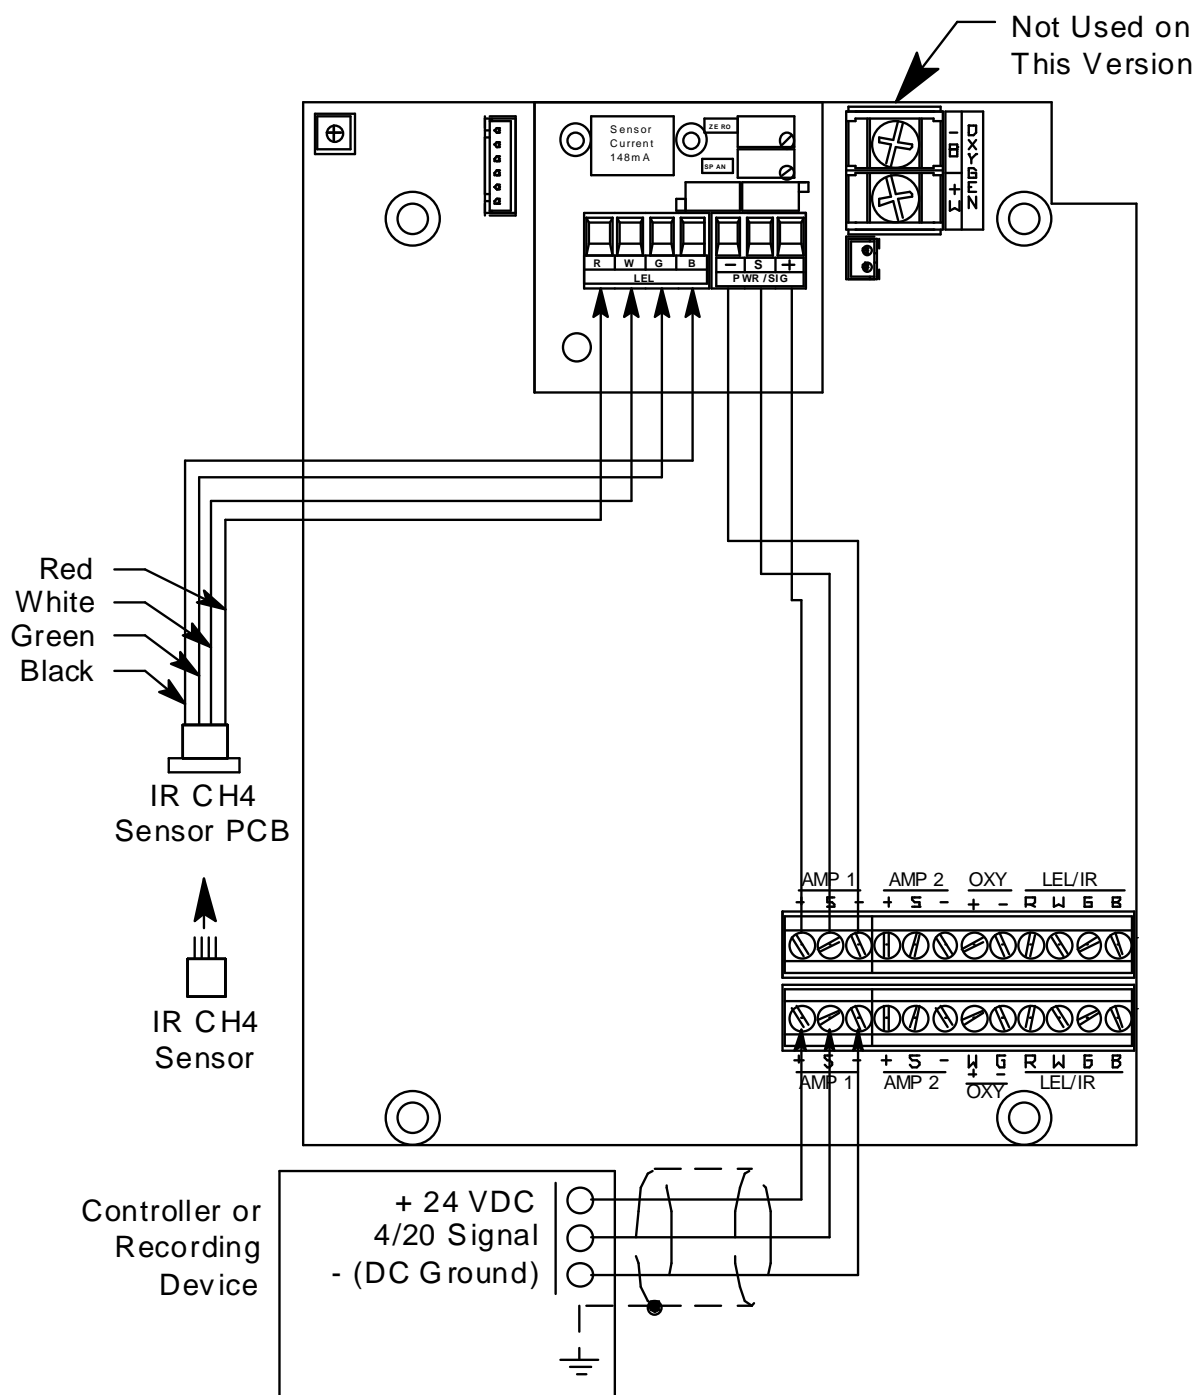

Figure 5: Wiring the Sample-Draw Detector to a Controller
5. Connect the cable to the sample-draw detector’s interconnect terminal strip as shown in Figure 5.
8. Connect the wires to the applicable detector/transmitter terminal strip at the controller as shown in Figure 5. Refer to the controller operator's manual and the controller detector head specification sheet for the 35-3001A-01-03 for detector/terminal strip connections specific to the controller.